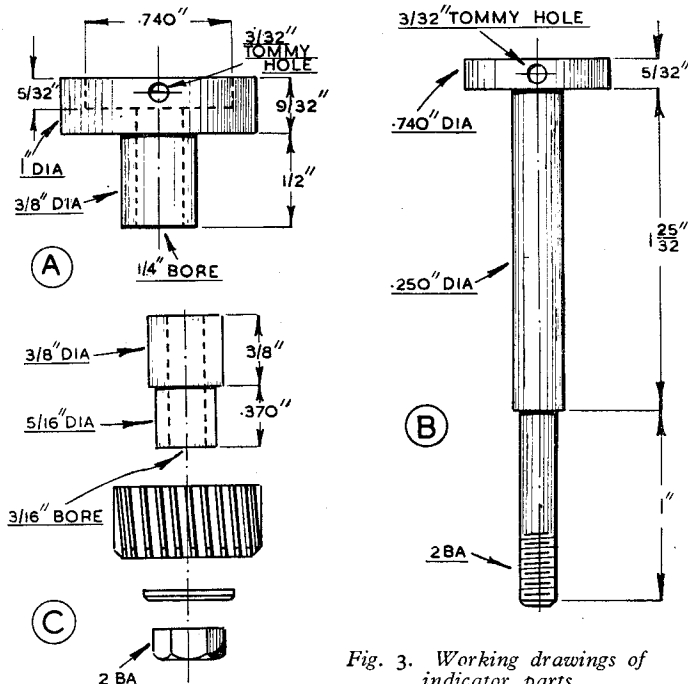

Fig. 3. Working drawings of indicator parts
The cap-piece, Fig. 3 (A), is machined from a length of 1 in. diameter round mild-steel to the dimensions given.
The bushing fitted to the lower end of the dial spindle (B) carries the pinion and is also a running fit in the bore in the body; this part is shown in Fig. 3 (C), and in Fig. 2 it will be seen with the pinion mounted in place. By this construction, the pinion is secured to the dial spindle when the clamp-nut is tightened, and at the same time a bearing is provided in the body for the lower end of the shaft.